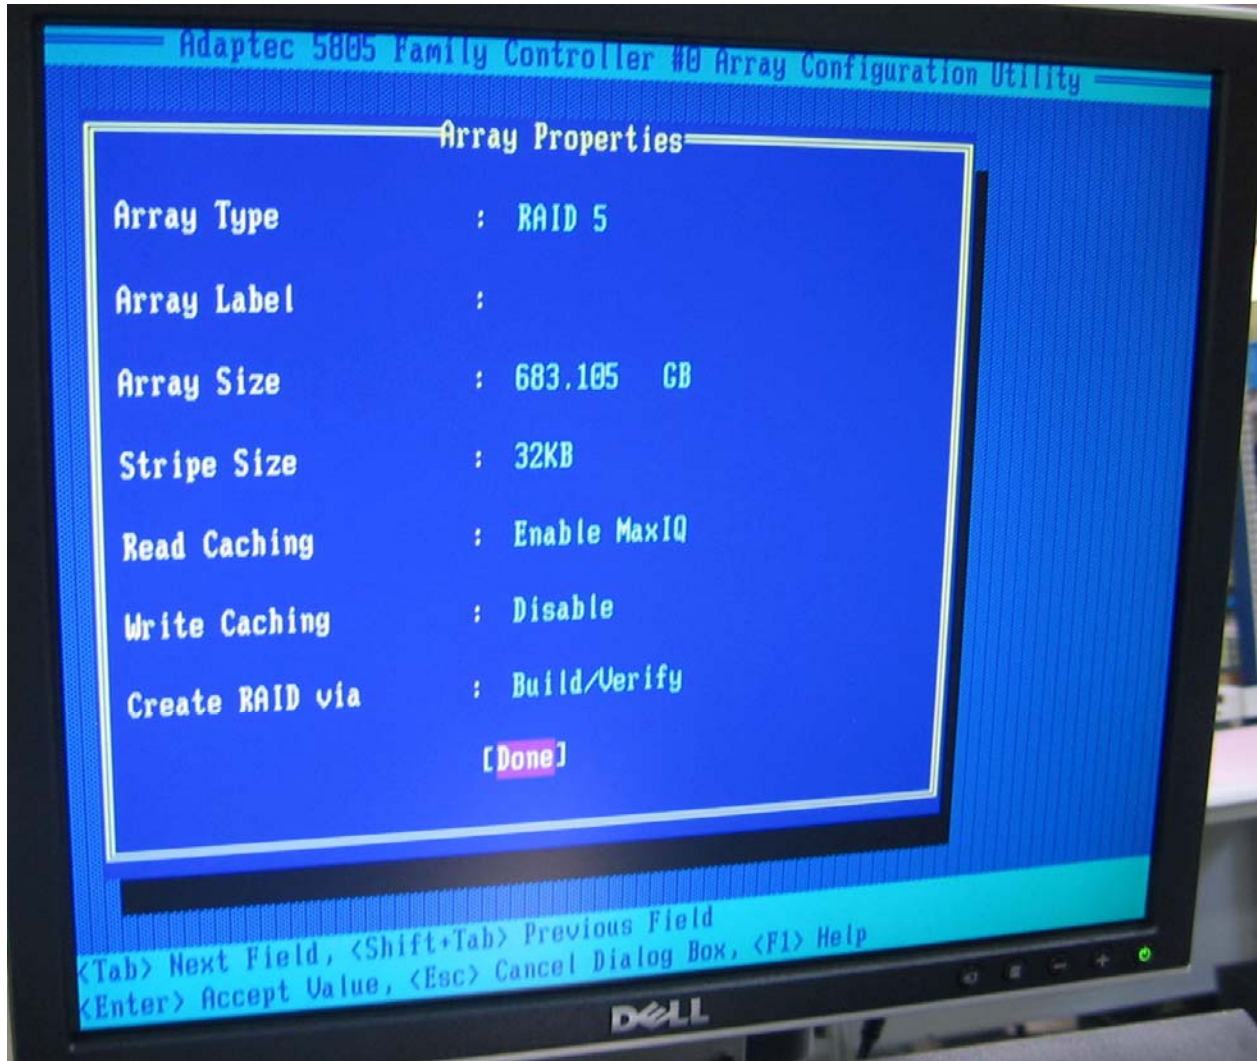

Figure 7-16 Press Enter
18. Press **Enter** to continue. (Figure 7-16).